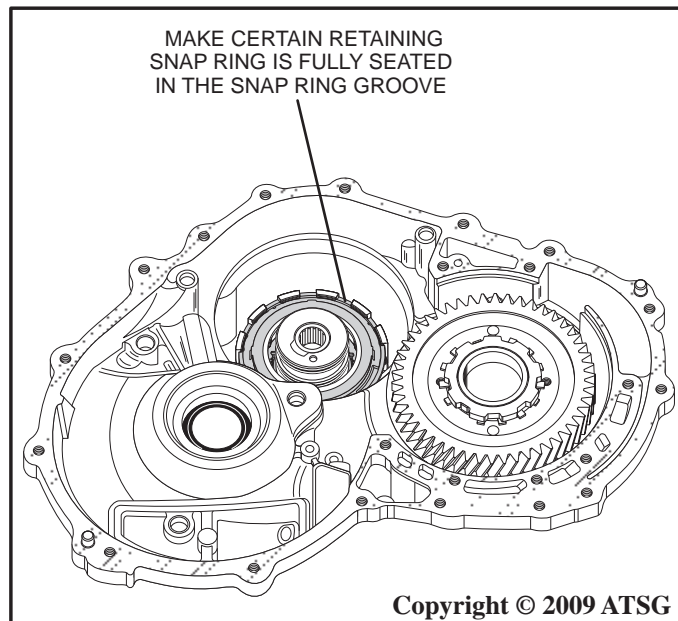

Figure 194
97. Make certain the retaining snap ring is fully seated in the snap ring groove in the case as shown in Figure 194.